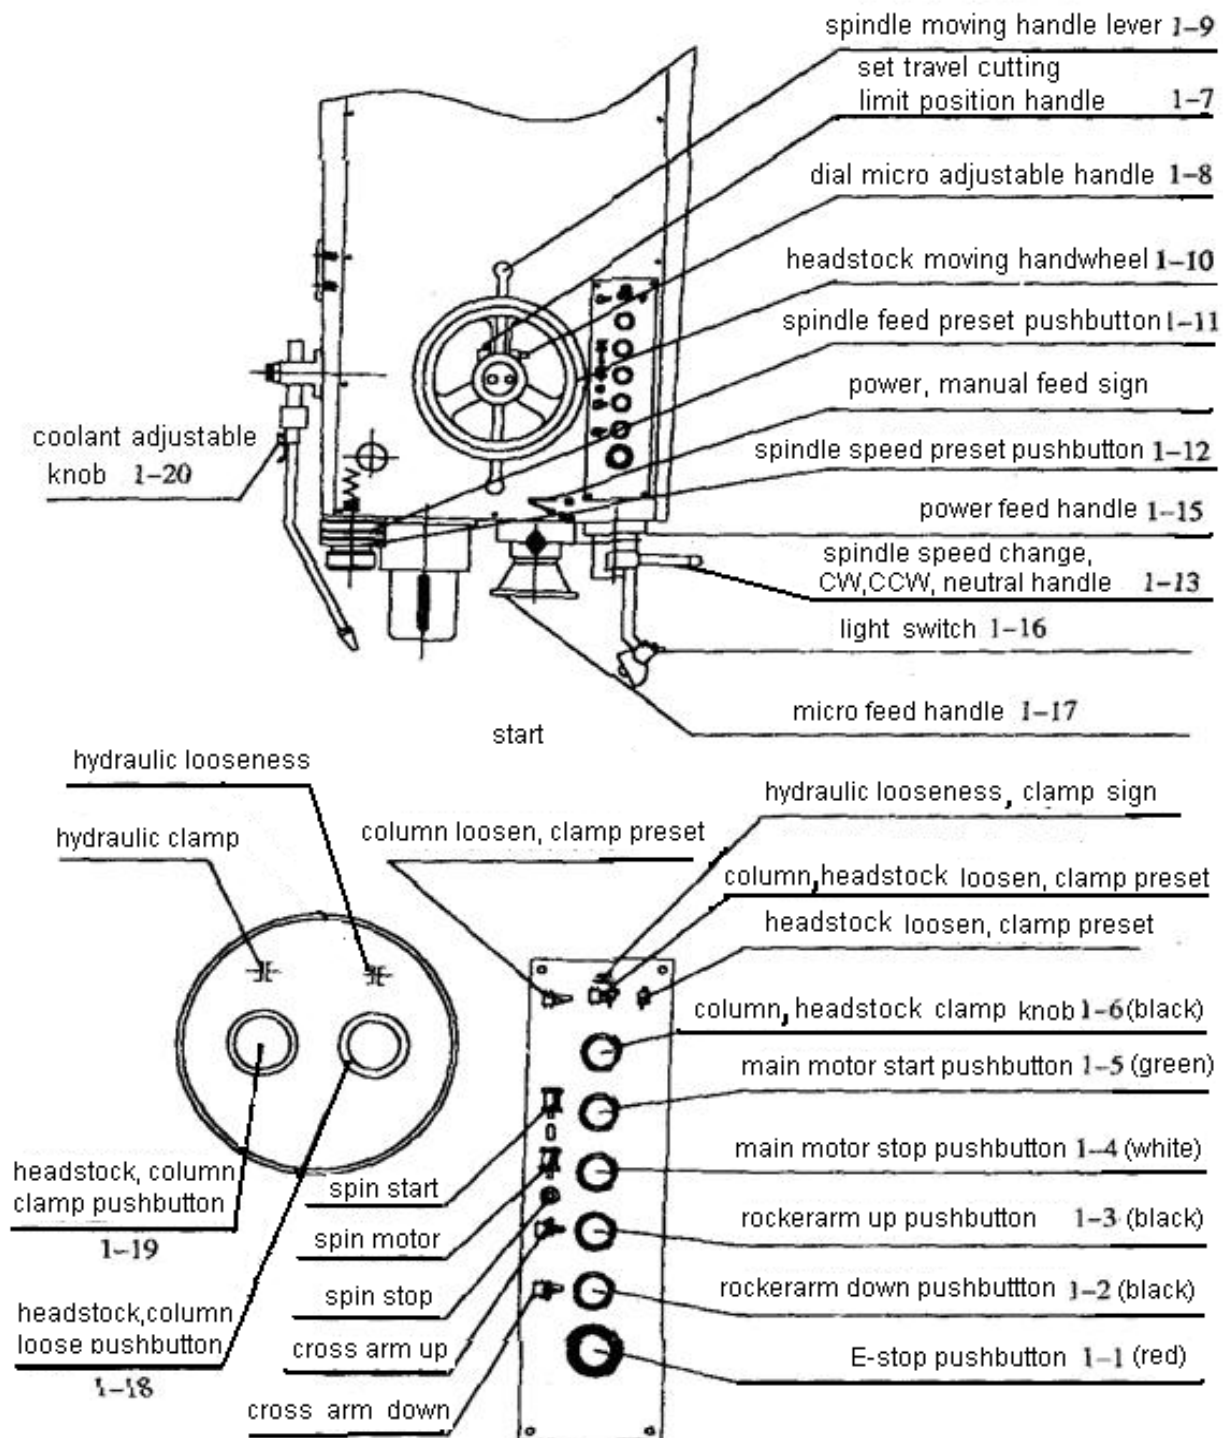
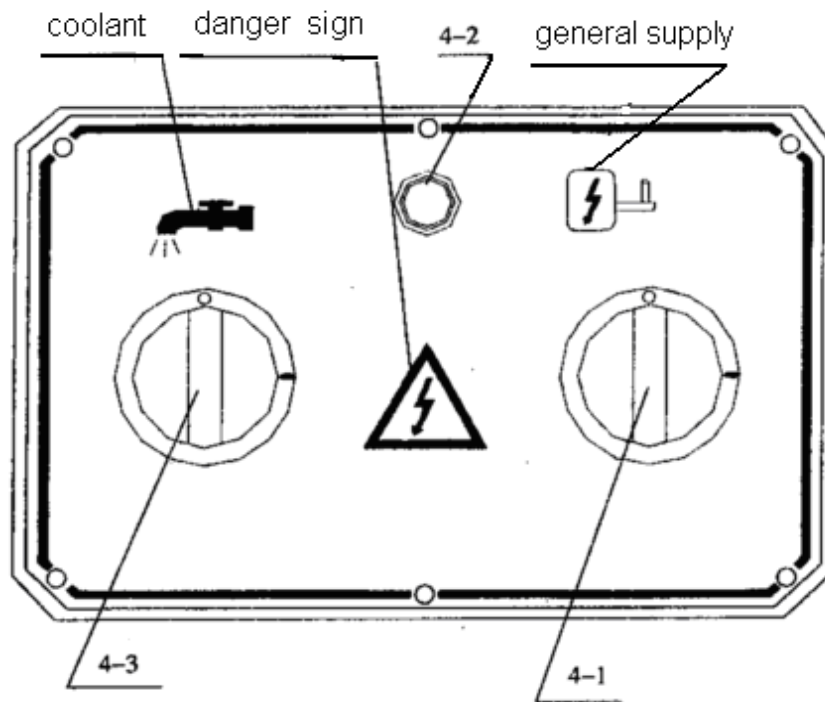

Figure 3.1
Figure 4.4
3.1.4 Headstock (see Figure 3.1).
- The lifting power of the arm is supplied by an elevating motor, lead screw and nut. (see Figure 3.1 headstock panel).
- The middle position is for tightening, the left position is to loosen the column separately, the right position is to loosen the headstock separately. (Pushbutton 1-18, 1-19) (see Figure 3.1)
Handle list (see Figure 3.1)
4.1.1 Turn on the main switch 4-1 on the column, then push the startup button of the coolant pump 4-3 (Fig. 4.4) and turn on the switch of the lamp (Fig.3.1);